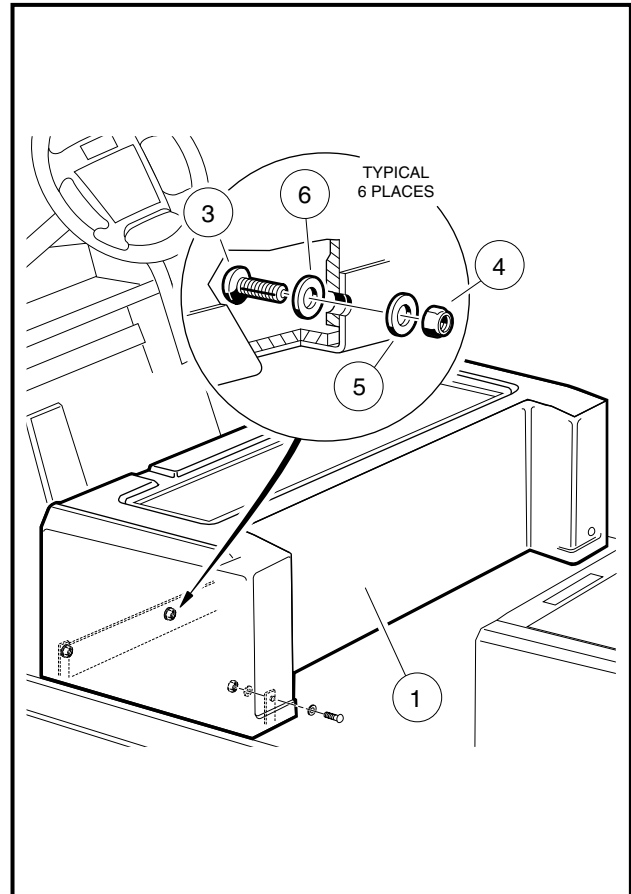

Figure 4-3 Center Body Removal
15. Remove the wire ties (22) that secure choke cable to the vehicle frame.
16. Remove three screws (19), nuts (21) and washers (20) from body and remove choke cable assembly from body.
17. Remove the screws (3), nylon cup washers (6), flat washers (5) and lock nuts (4) and lift the center body from the vehicle frame (**Figure 4-3, Page 4-5**).
1. Install in reverse order of removal. Torque screws (3) and lock nuts (4) to 18 in-lb (2.0 N·m) (**Figure 4-3, Page 4-5**).